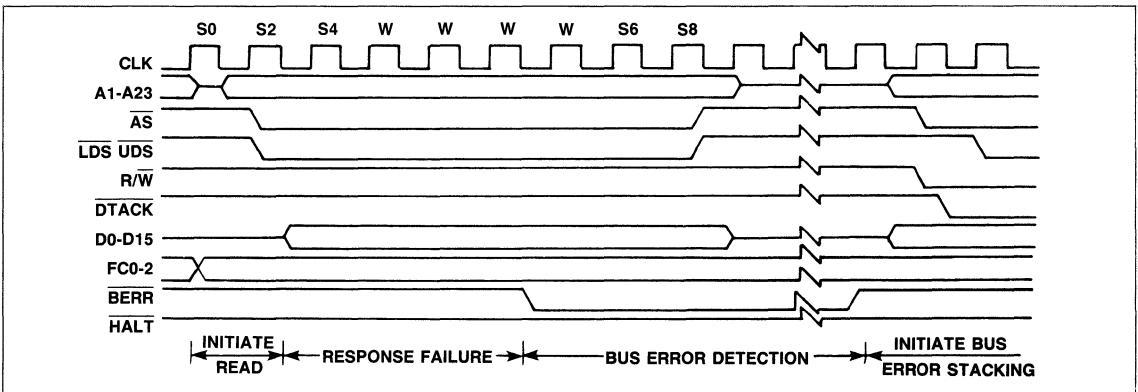

Figure 20. Bus Error Timing Diagram
**Bus Error Operation.** When  $\overline{BERR}$  is asserted, the current bus cycle is terminated. If  $\overline{BERR}$  is asserted before the falling edge of S2, AS will be negated in S7 in either a read or write cycle. As long as  $\overline{BERR}$  remains asserted, the data and address buses will be in the high-impedance state. When  $\overline{BERR}$  is negated, the processor will begin stacking for exception processing. Figure 20 is a timing diagram for the exception sequence. The sequence is composed of the following elements: